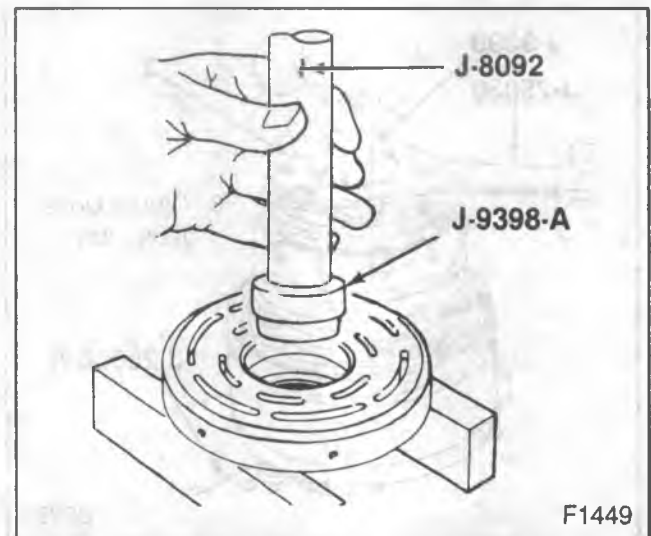

Figure 98—Removing the Bearing
- If the pulley rim mounting screws (10) and washers (9) were removed, only the clutch rotor and bearing assembly will be removed for replacement. The clutch coil and housing assembly is pressed into the compressor and will not be removed unless the pulley rim mounting screws are left in place and the pulley rim pulls the coil and housing assembly off with the clutch rotor and pulley rim assembly.
4. Bearing (6) from the clutch rotor (5) with J 8092 and J 9398-A (figure 98).
1. Bearing (6) to the rotor hub with J 8092 and J 9398-A (figure 98).
- 4. Bearing (6) from the rotor hub (5) with J 9398 and J 8092 (figure 98).